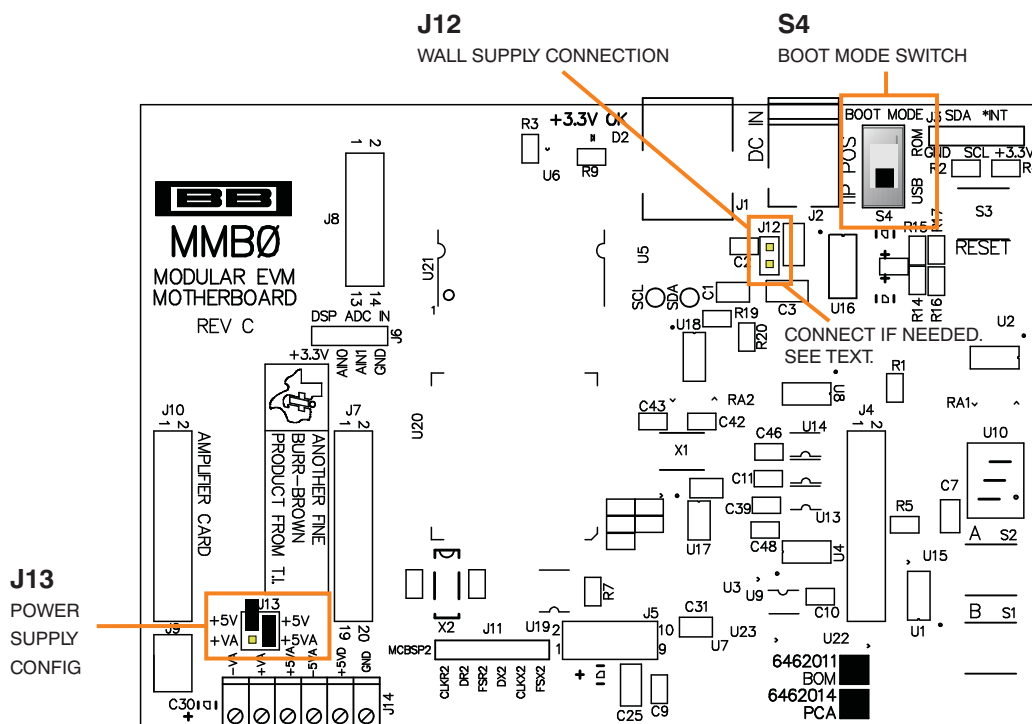

Figure 8. MMB0 Initial Setup
Step 2. Set the jumpers and switches on the MMB0 as shown in Figure 8.